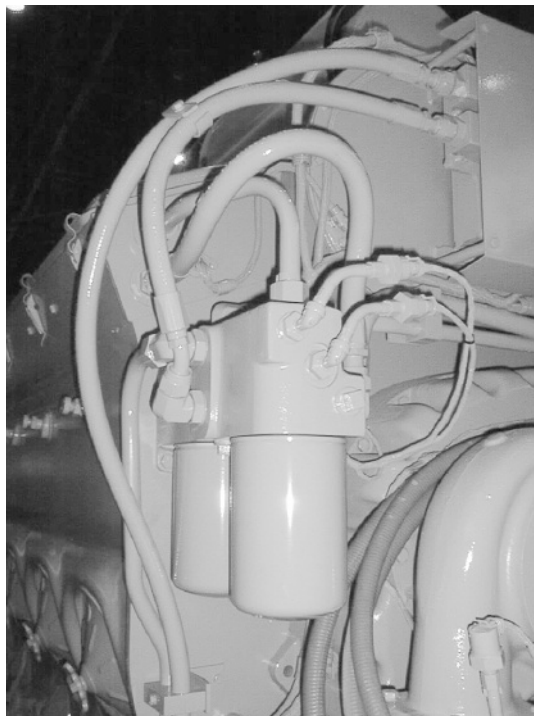

Figure 2.5a *Fuel Filters Mounted On Right Front Corner Of The Engine..*
- mounted on the right front corner of the engine (*figure 2.5a*),